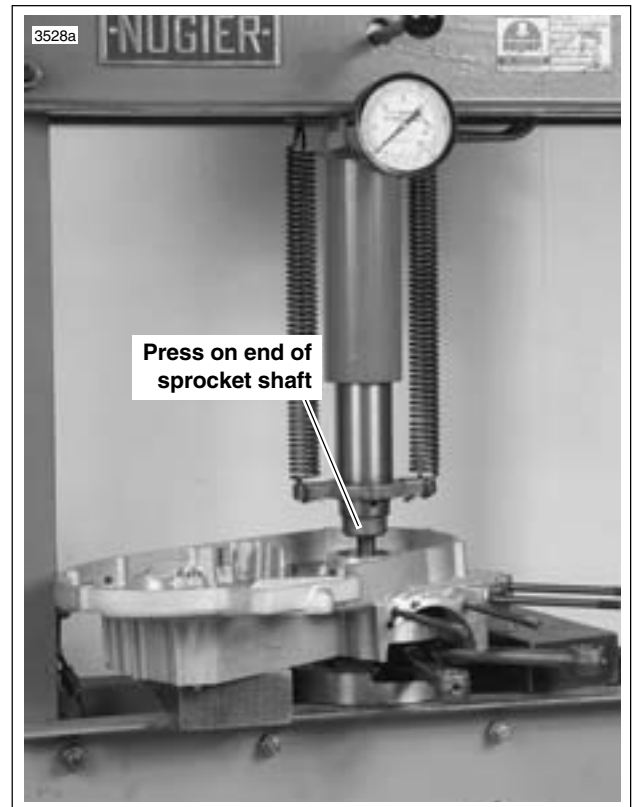

Figure 3-77. Pressing Flywheel from Crankcase
- See Figure 3-77. Mount the left crankcase half and flywheel assembly on a press table, supporting crankcase on parallel bars. Press on end of sprocket shaft with arbor press until flywheel assembly is free from crankcase half. Do not drive flywheel assembly from crankcase half as flywheels may be knocked out of alignment.
See Figure 3-77. If it is necessary to remove either the pinion shaft bearing (11) or sprocket shaft bearing (4 and 9), proceed as follows: